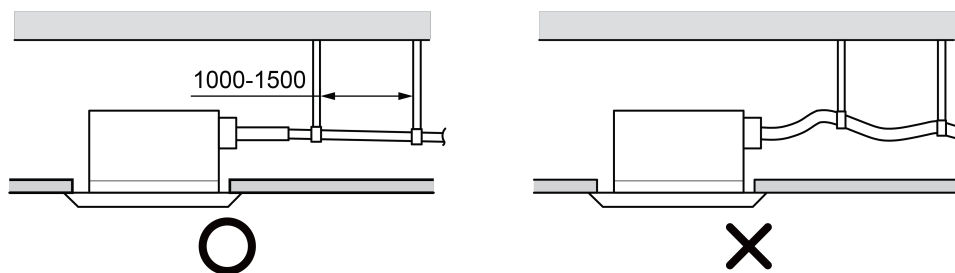

Fig.4.3.2.5
- (9) The installation height of raising pipe for drainage should be lower than B. The gradient from raising pipe towards drainage direction should be at least 1%~2%. If the raising pipe is vertical with the unit, the raising height should be less than C, as shown in Fig.4.3.2.6.